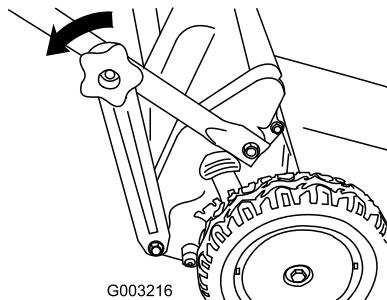

Figure 54
1. Remove the lower handle knobs (Figure 54).
2. Detach the lower handle brackets from the lower end of both handle sides (Figure 54).